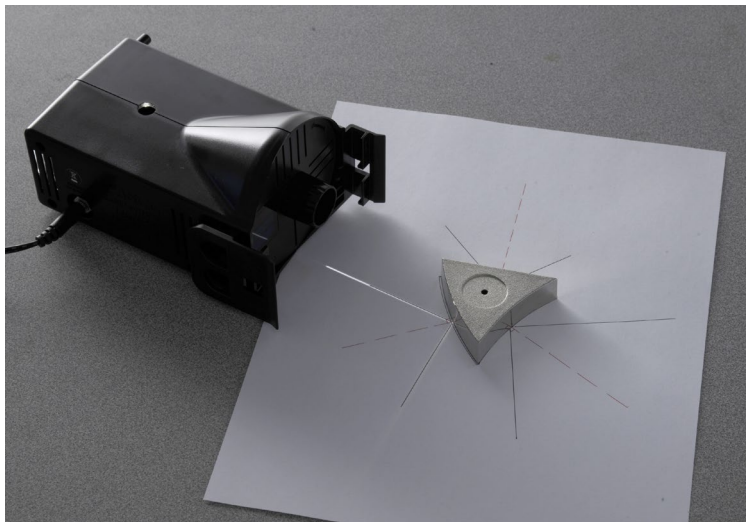

Figure 7: Convex Mirror Reflection
1. Adjust the position of the light source so the single light ray now hits the convex mirror at the point the normal line extends from the outline as in Figure 7.